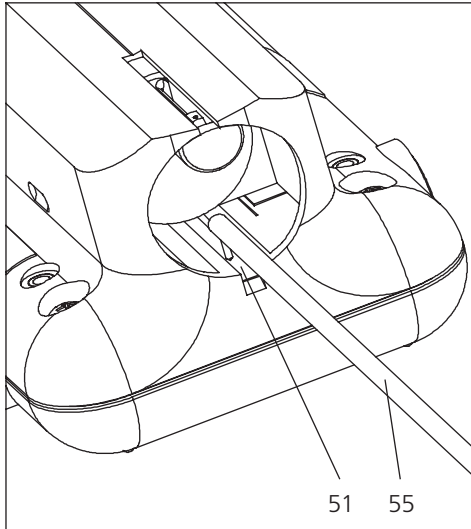

Fig. 11
1. Position an appropriate roughness measuring instrument (e.g. Perthometer S2, drive unit PZK, skidless pick-up MFW) such that the pick-up is seated on the integrated standard and a traversing length of 5.6 mm (0.224 in) can be measured (see Fig. 11).